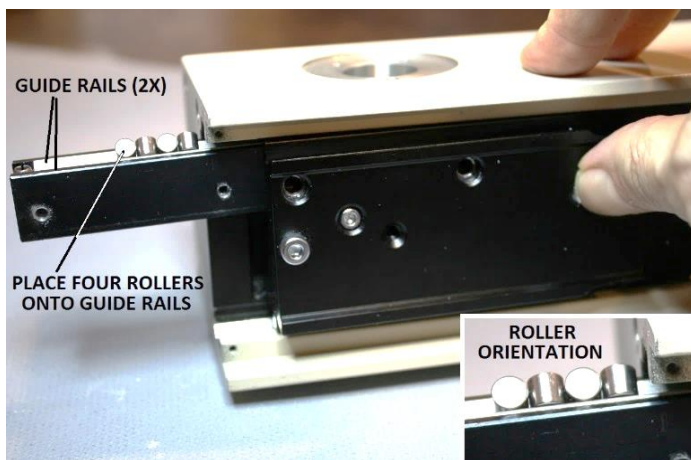

Figure 42 – Place four rollers on the upper guide rails
Lightly coat four of the cylindrical rollers and the remaining plastic spacer rod with a suitable grease (item 5 or 7 of Appendix 2). Place these four greased cylindrical rollers onto the greased guide rails in the groove on top of the guide block, where the guide block is protruding from the left-hand side of the arm (see Figure 42, shown without grease for clarity). Orient the rollers as shown in the inset.
Place four of the cylindrical rollers onto the guide rails in the groove on top of the guide block, where the guide block is protruding from the left-hand side of the arm (see Figure 42). Orient the rollers as shown in the inset.